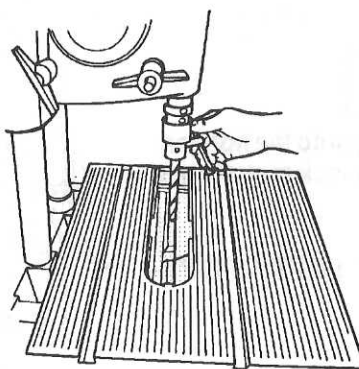

Fig. B-53
11. Install a 3/8" to 1/2" straight drill bit in the drill chuck and use the chuck key to lock it place. See Fig. B-53.